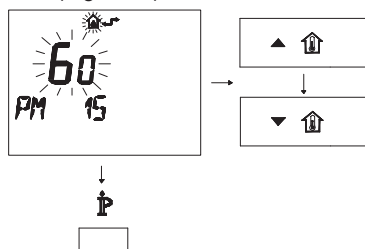

Fig. 7.17
- Modify the programmed SET by acting on buttons or until a setting of 60 is displayed, wait for the number programmed to flash (Fig. 7.17).